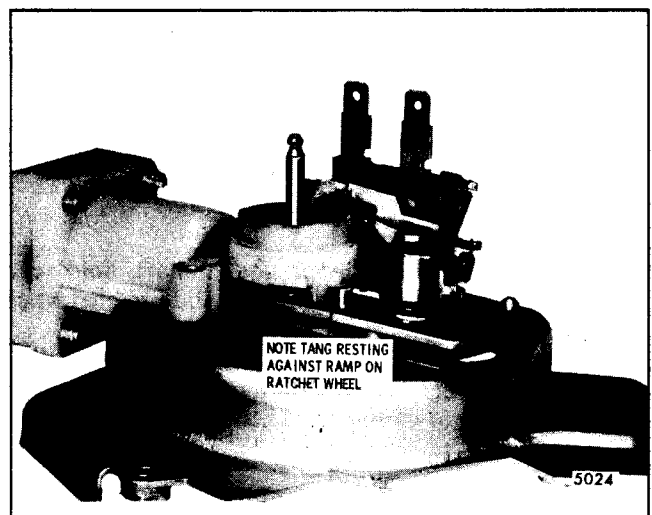

Fig. 2-68-Ratchet Wheel-Ramp
Refer to Fig. 2-68 and note that a tang on the piston actuator plate is resting against a ramp on the lower surface of the ratchet wheel. This, in effect, holds the piston actuator plate in a lock-out position. With actuator plate in this position and the wiper running, the cam-follower pin merely moves back and forth in the elongated slot of the piston actuator plate and no pumping action can occur.
The ratchet wheel pawl, which is actuated by the same cam-follower pin that moves the piston actuating plate, begins to rotate the ratchet wheel. Rotating the ratchet wheel one tooth moves the ratchet wheel ramp away from the tang of the piston actuating plate (Fig. 2-68), permitting the piston spring to expand which in turn forces the piston toward the valve assembly resulting in the first exhaust stroke. This sequence then repeats through the remaining cycles.
2. The tang on the piston actuating plate is resting once more against the ramp on the lower side of the ratchet wheel (Fig. 2-68).